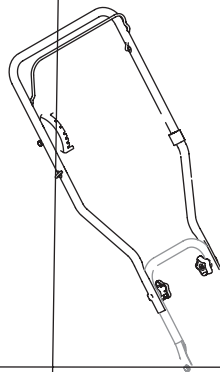

Figure 3-1
1. Pivot the upper handle upward until it snaps into place. See Fig. 3-1.